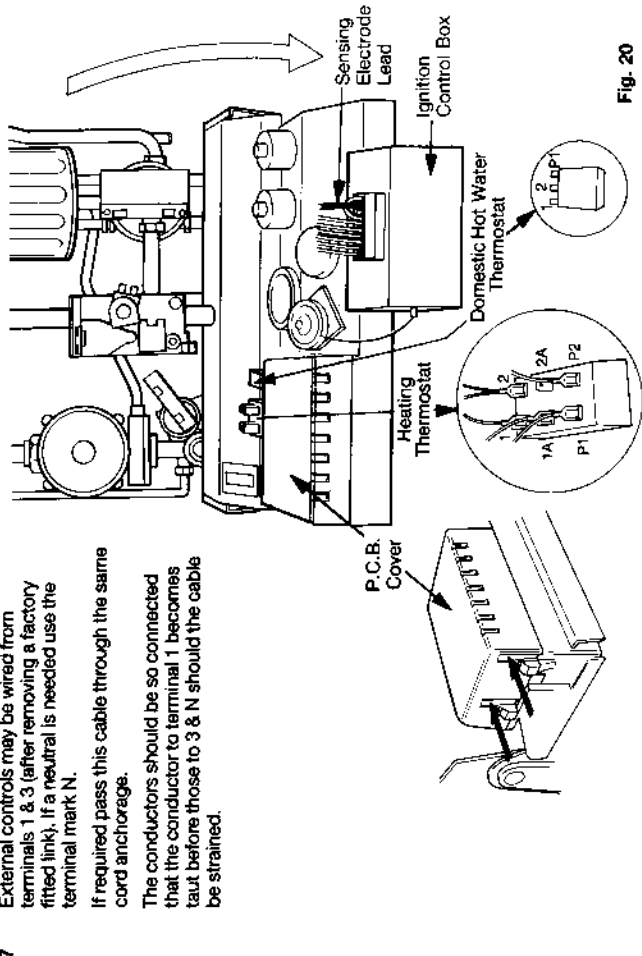

Fig. 20
Press in the sides of the printed circuit board cover (fig 20) to release retaining clips, and lift cover off.
6.6.6 If the boiler temperature is above 60°C turn the dhw thermostat down until the low flame is established. If low flame cannot be established in this way, turn off the electricity supply and transfer the cable on terminal 2 of the dhw thermostat to terminal 1 (Fig 20 shows location). Switch on electricity.
6.6.11 Disconnect the sensing electrode lead from terminal 9 on the ignition control box (fig 20)